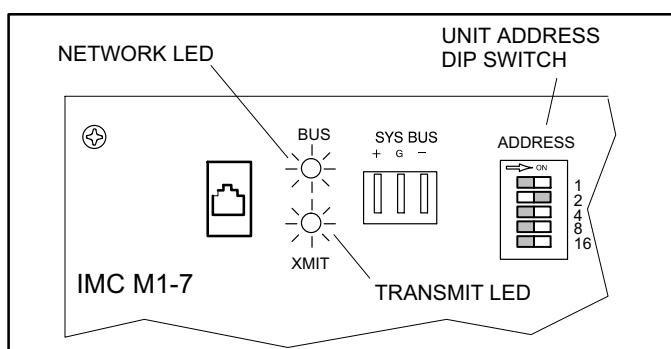

Figure 2. IMC LEDs
- Set the BACnet device I.D. (and MAC address) with the unit address DIP switch on the IMC main board (M1-7). See figure 2. Each IMC on the BACnet network must have a different address between 1 and 31. Do not use 0 for addressing.